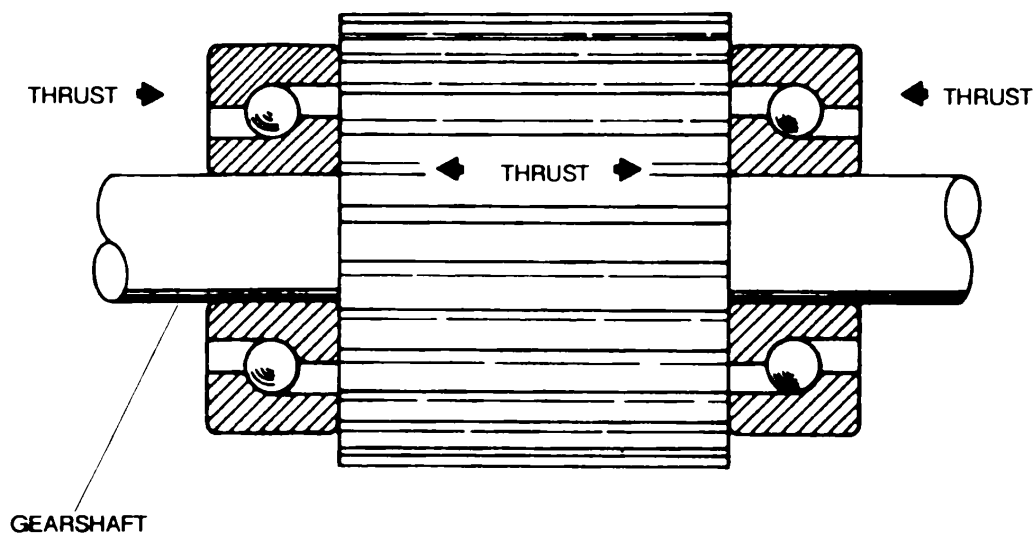

Figure 8-23. Angular Bearing Installation
(2) Ensure that annular bearings are positioned as shown in figure 8-23. Exert pressure on inner race only. Use arbor press and fabricated tool FT-21326 and install bearings (56) and (57) on pinion spur gear.
(3) Lubricate shim (55), spring washer (54), and pinion spur gear assembly (53) with clean engine oil and install in gearbox housing. Use heat gun to heat bearing bores if necessary.
(4) Position bearing retainer (52) over pinion spur gear assembly. Install washers (51) and bolts (50) in 8 o'clock and 12 o'clock positions. Torque to 27-30 inch pounds (3.1-3.4 Nm).
(5) Install retainer ring (49) into generator shouldered shaft (43).